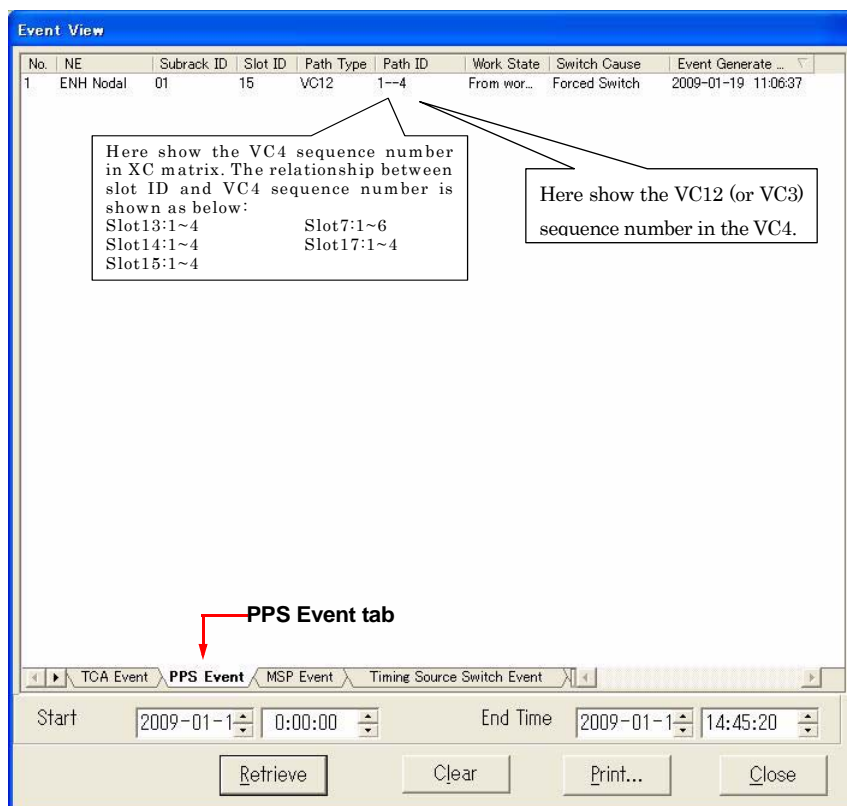

Fig. 4-7-10 Event View Dialog Box with PPS Event Tab
- 4 Click the **PPS Event** tab. The window shown in *Fig. 4-7-10* appears: